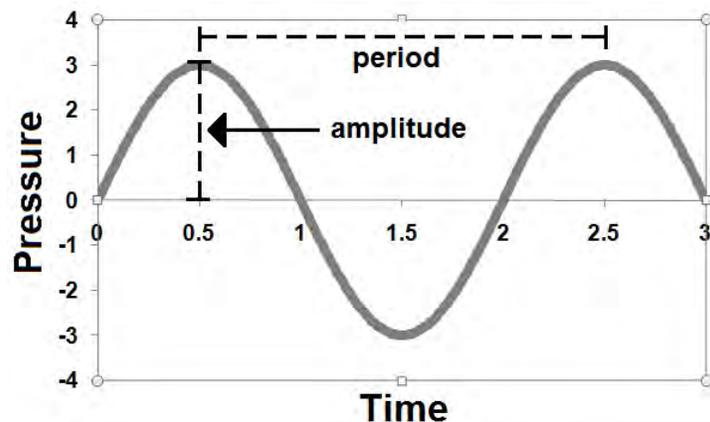

Figure 7. Plot of a pressure wave
- Examine the plot of a pressure wave in Figure 7 below. Pressure is measured along the vertical y-axis and time is measured along the horizontal x-axis.
the peak (loud extreme) and the trough (quiet extreme) of a sound wave. Looking at the plot of a sound wave in Figure 7, you can see that the amplitude of this wave is 6 units of pressure. The *unit* here is unspecified. The typical unit used is decibels (dB), a logarithmic unit expressing relative power. OSHA guidelines set 0 dB as the threshold of hearing by humans and 150 dB as the threshold for eardrum rupture.
1. The **period** of a traveling wave is the *time between two successive peaks of the wave*. The period of the wave depicted in Figure 7 is 2 units of time (the peaks are at 2.5 and 0.5, so the difference between them is $2.5 - 0.5 = 2$.)